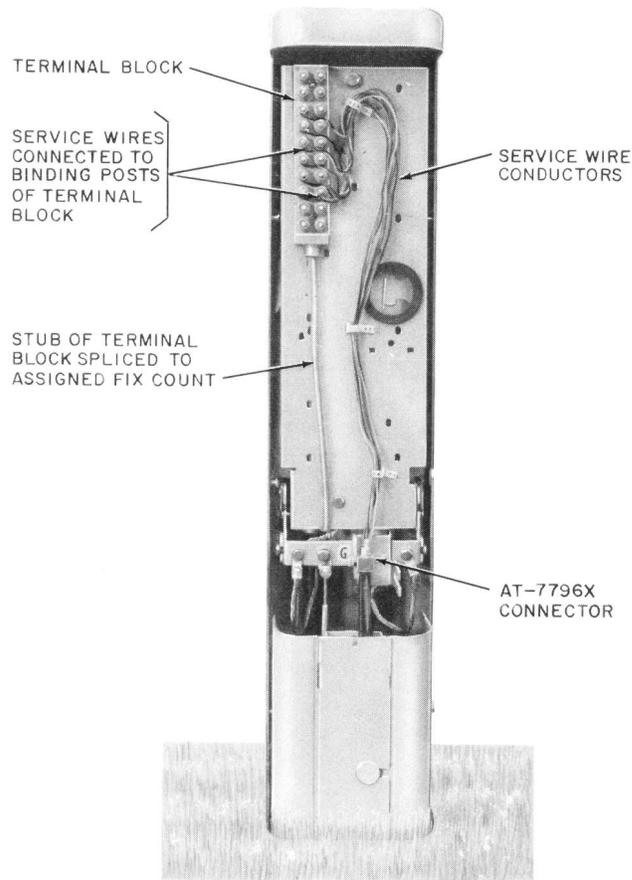

Fig. 17—Service Wires Terminated in PC6/48 Cable Closure—Fixed Count Mode
6.04 Run the conductors of the service wire to the assigned binding post on the terminal block as shown in Fig. 17, 18, and 19.